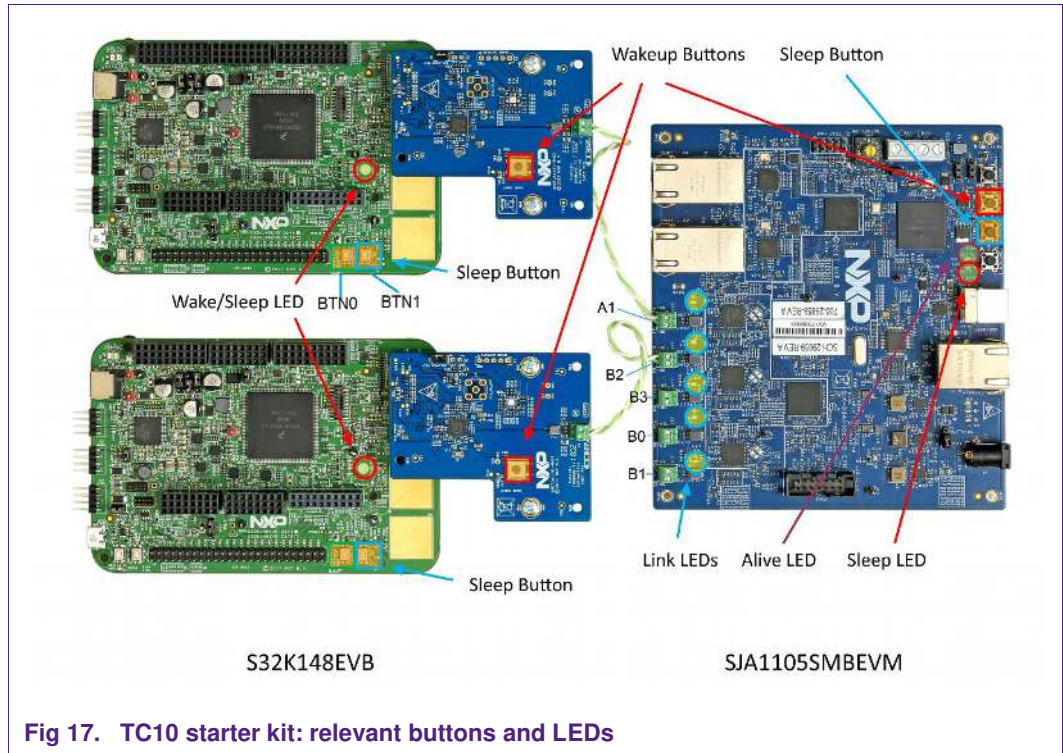
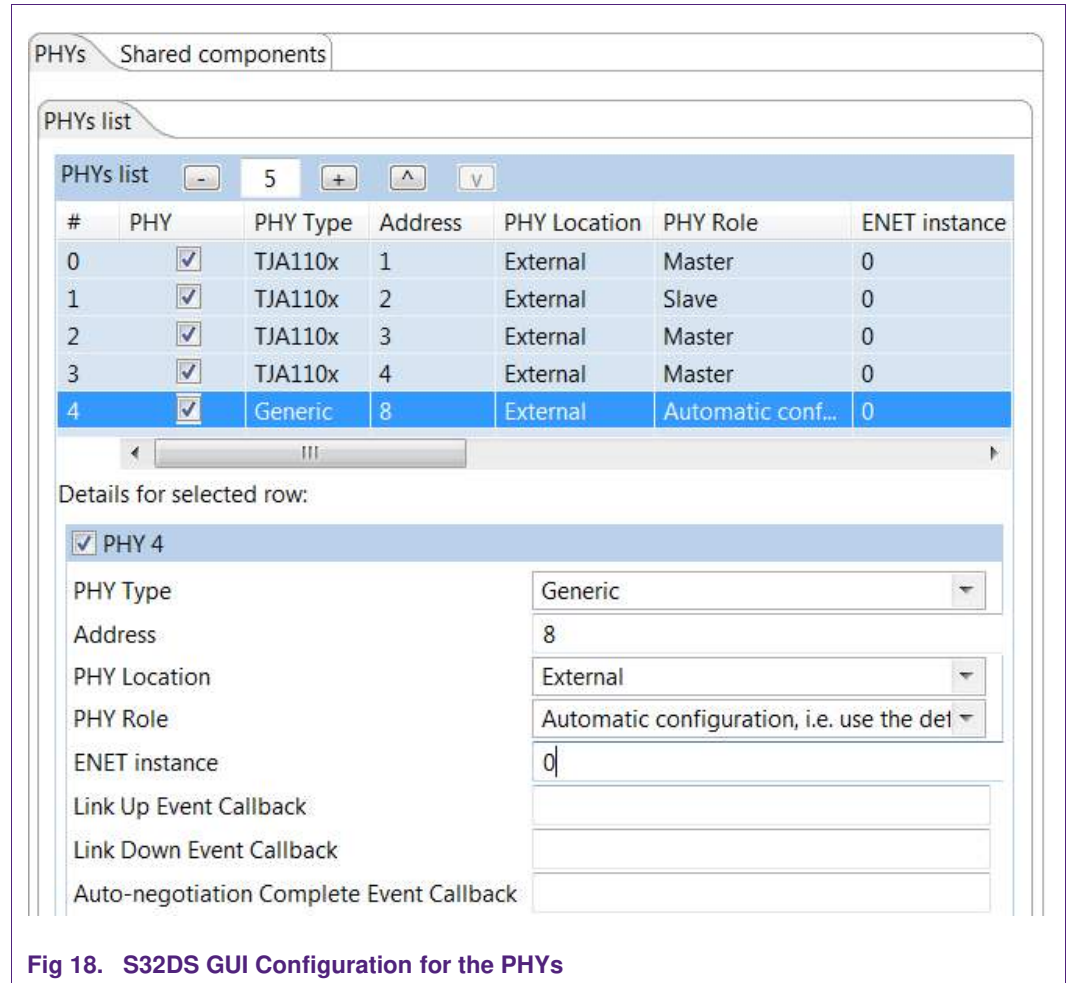

Fig 17. TC10 starter kit: relevant buttons and LEDs
Fig 18. S32DS GUI Configuration for the PHYs
- If everything goes well, you will see the debug view, and the main window will show, that the program has stopped on “main()”. Then you can select “Run -> Run” or use a shortcut key Ctrl + F11. The program continues, and the sleep/wake LED will be switched on (see Fig 17 for location of the sleep/wake LED, and Table 1 for description of the sleep/wake LED).
On the S32K148EVB side, the wakeup button is located on the ADTJA1101-RMII daughter board, while for going to sleep, one of the general-purpose buttons (BTN1, see Fig 17) is used. The Sleep Request SMI command will be sent to the TJA1101 when pushing the sleep button on the S32K148EVB board. A wakeup request will be sent to the TJA1101 when pushing the wakeup button on the ADTJA1101-RMII board (refer to the TJA1101 datasheet for more details).
- Push the two push buttons (BTN0 & BTN1, see Fig 17) simultaneously. The PHY configuration will be swapped: Master will become Slave and vice versa.
The 3-color LED on the S32K148EVB which is marked as “Wake/Sleep LED” in the Fig 17 is used to indicate the TJA1101 sleep/link up status:
Please note that the connection to ports A1 and B2 in Fig 17 is exemplarity. It can be connected to any other 100BASE-T1 port of the SJA1105SMBEVM, such as B3, B0 and B1 depending on the specified use case.
The meanings of two push buttons and three status LEDs which are shown in Fig 17 are described in the tables below.
As shown in Fig 18, the Master/Slave settings of the 5 100BASE-T1 ports (Fig 17) can be re-configured by the S32DS GUI driver configuration. The default settings can be found in Table 4.
The column “WAKE\_IN\_OUT” refers to wakeup signal sent to the PHY via a rising pulse on the WAKE\_IN\_OUT line, which connects the WAKE\_IN\_OUT pin of all PHYs on the SJA1105SMBEVM. The pulse may be generated by pushing the wakeup button which is shown in Fig 17.
Pressing “Sleep button” (Fig 17) on the SJA1105SMBEVM writes a sleep request to each PHY. This results in sending a sleep request over the link to the link partner. All PHYs on the SJA1105SMBEVM and the TJA1101 on the ADTJA1101-RMII will go to sleep if no data is detected on MII or MDI during the intermediate state (Sleep Request mode) before Sleep mode. Please refer to the TJA1102 application hint (AH1508) for more details of the process from active link to sleep.
Please note that the below behaviors are based on default configurations in Table 5 & Table 6, and the connection shown in Fig 17 **Error! Reference source not found.** The behavior may be different with different wake up and wake up forwarding configurations.
- There are two options to wake up the slept PHYs after sleep operation described in chapter 3.6.4.2. Option 1: press the “Wakeup button” on the SJA1105SMBEVM board (Fig 17). A rising wake up signal will be sent to the WAKE\_IN\_OUT pin of the PHYs on the SJA1105SMBEVM. All PHYs on the board will be waked up.
- Option 2: press the “Wakeup button” on the ADTJA1101-RMII which is connected to the A1 port of the SJA1105SMBEVM via Ethernet cable (Fig 17). The TJA1101 will be waked up by local wake up signal and send out wake up request over the link. The TJA1102S (A1 port) will be waked up by the remote wake up signal, and then forward the wake-up request to the WAKE\_IN\_OUT pin by generating a rising edge (configured as “react on remote wake up, and forward remote wake up to local”). All PHYs on the SJA1105SMBEVM will be waked up since all of them are configured as “react on local wake up”.
- Press the “Wakeup button” on the ADTJA1101-RMII which is connected to the B2 port of the SJA1105SMBEVM (Fig 17). The TJA1101 will be waked up by local wake up signal, and send out wake up request to B2 over the link. B2 will stay in Sleep mode since it’s configured as “no react on remote wake up”.